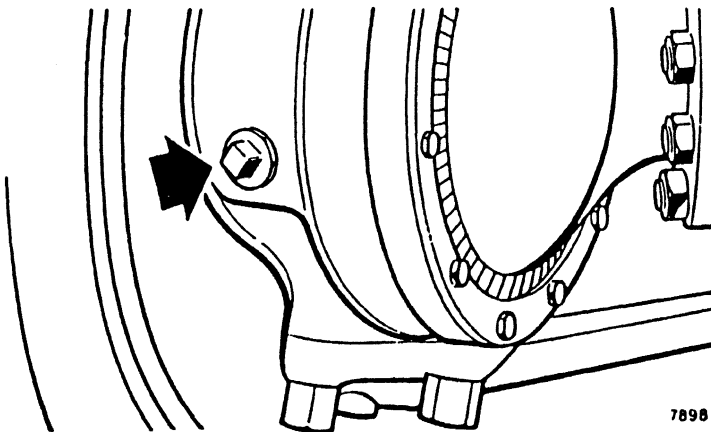

Fig 17 Steering knuckle oil filler/level plug
27. A combined oil filler/level plug (Fig 17) is fitted to each steering knuckle. The level of the oil should be to the bottom of the filler/level plug hole.